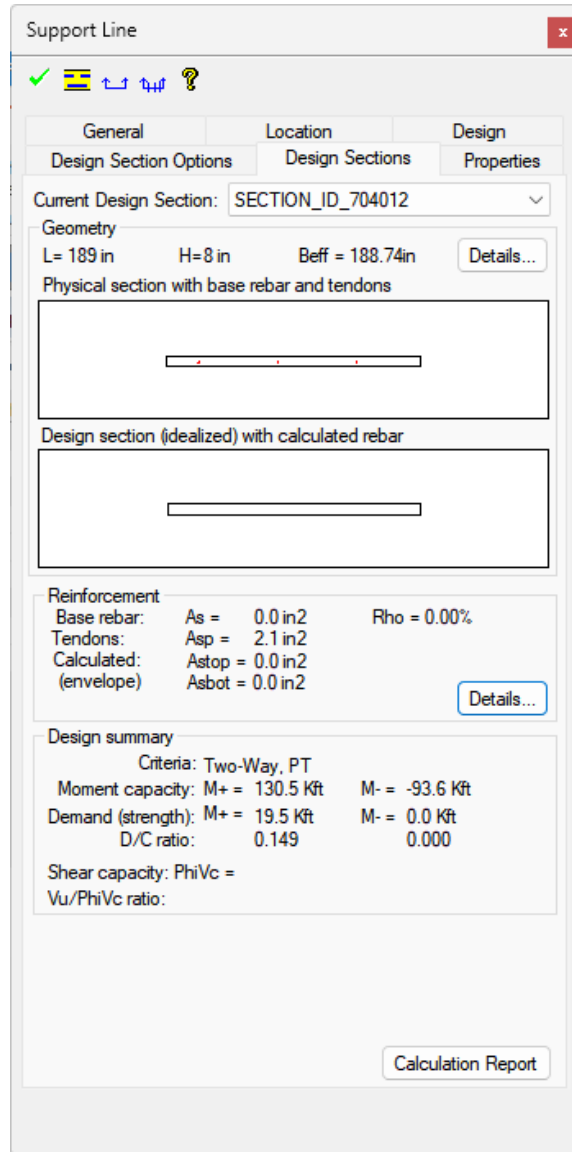

FIGURE 9-124
- The *Support Line* properties window will open to the **Design Sections** tab to show the design section properties as shown in **FIGURE 9-124**.